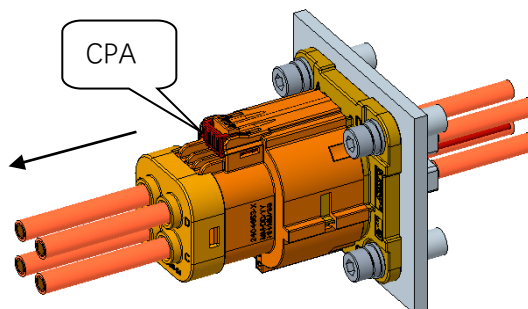

Figure 11
1. Pull the CPA (as below direction) until it stops as shown in Figure 11.
如图 11 所示，（如下方向）拉动 CPA 直至停止。